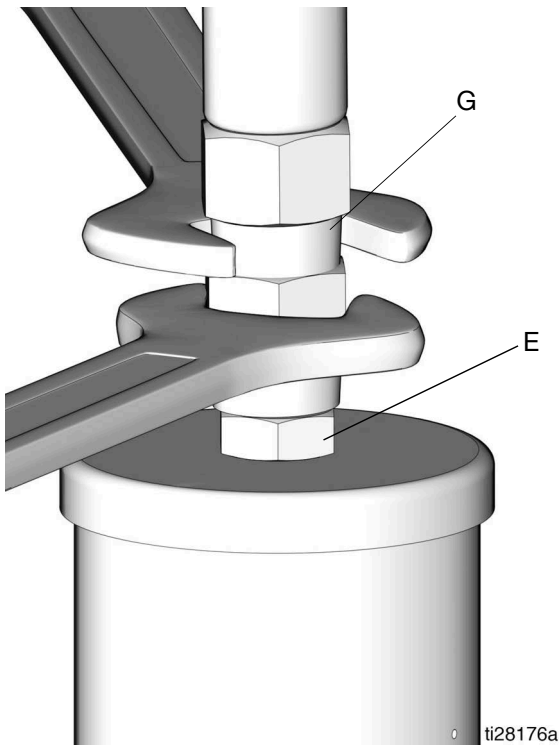

FIG. 8
2. Relieve pressure in system using two wrenches working in opposite directions on the pump outlet (E) and lubrication line fitting (G) to slowly loosen the fitting until it is loose and no more lubricant or air is leaking out of the fitting (FIG. 8).